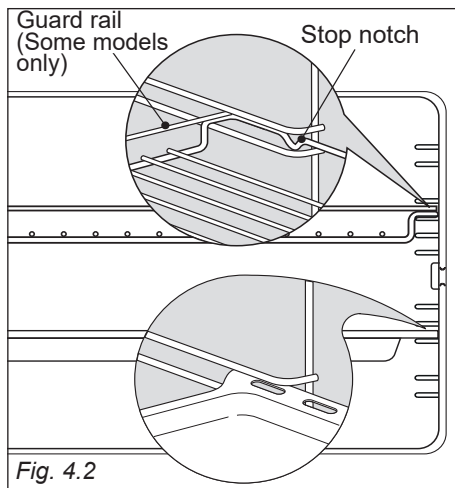

Fig. 4.2
- Slide in, on the guides, the shelf and the tray (fig. 4.2).